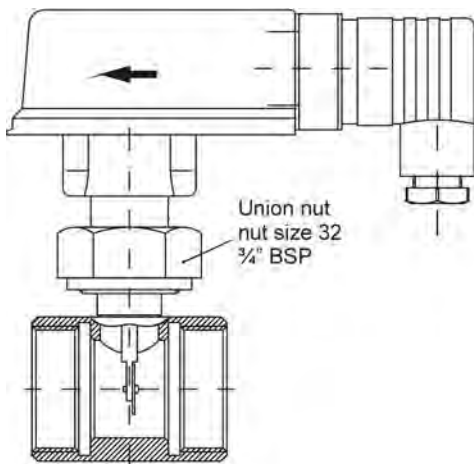

Fig. 5
- ⇒ Flow switches optionally equipped with a copper tube section (Fig. 5) have to be soldered to the pipe. The flow switch (upper part) and the O ring have to be disassembled from the tube section when soldering to prevent overheating.